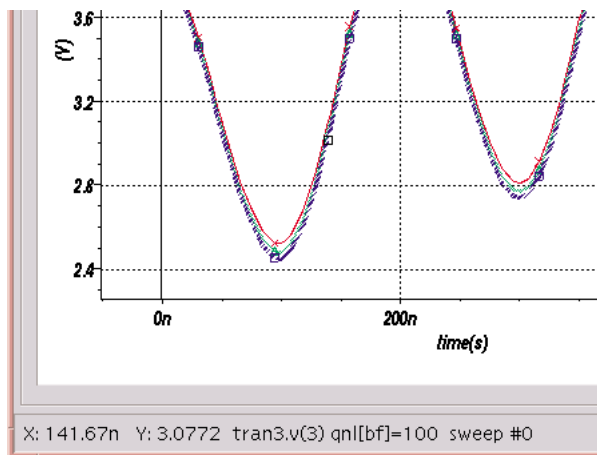

Figure 2. Parameter value shown when pointing a mouse cursor on a waveform.
Once the variable is set and an analysis is run, the new parameter name appears as a vector along with the analysis type in the Vectors tab window (Display Spice) of **SmartView**. After a new plot is created, the vector is referred to by pointing the mouse cursor at a waveform and selecting node voltages, such as `V(2)` and `V(3)`. Figure 2 shows the analysis type (transient), vector name (`V3`), the modified parameter value (100), and parameter name (`qnl[bf]`).